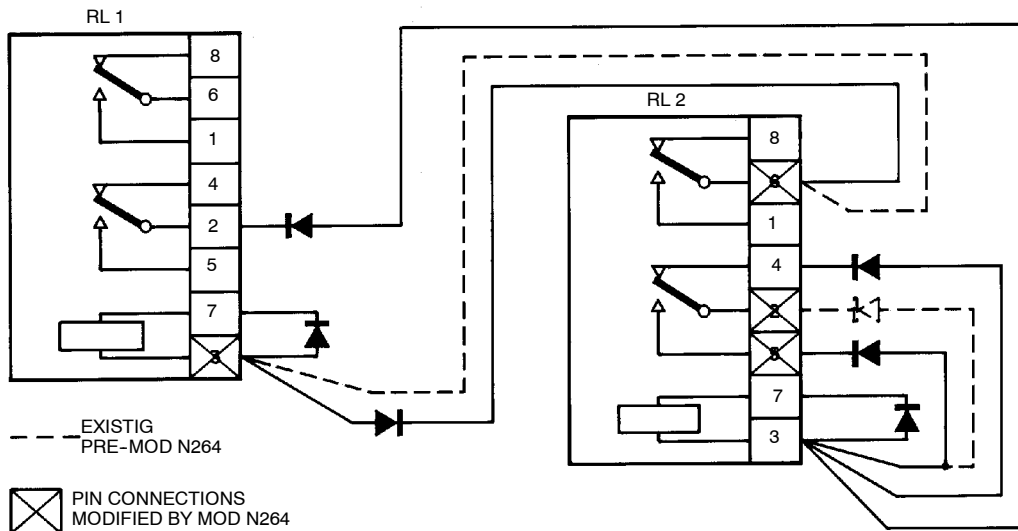

Figure 2
- D. Unfasten the cover over the plug and unscrew relay bracket to gain access. Refer Fig. 2.
- F. Remove the wire from relay one socket pin 3 (RL1/3) to relay 2 socket pin 6 (RL2/6). Install diode (IN645 or IN646) between RL2/6 and RL1/3 with the anode at RL1/3 Ref., Fig. 2.
- G. On RL2 transfer the diode attachment wire on Pin 2 to Pin 5 with the anode connection retained at Pin 3. Ref. Fig. 2.